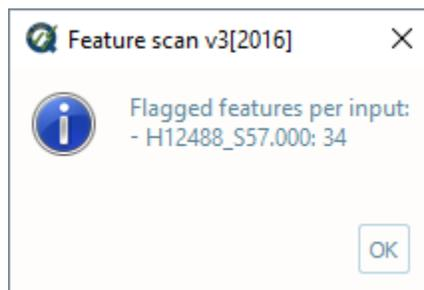

Fig. 2.66: Feature scan's output message.
- After computing, the output window opens automatically, and the results are shown (Fig. 2.66).